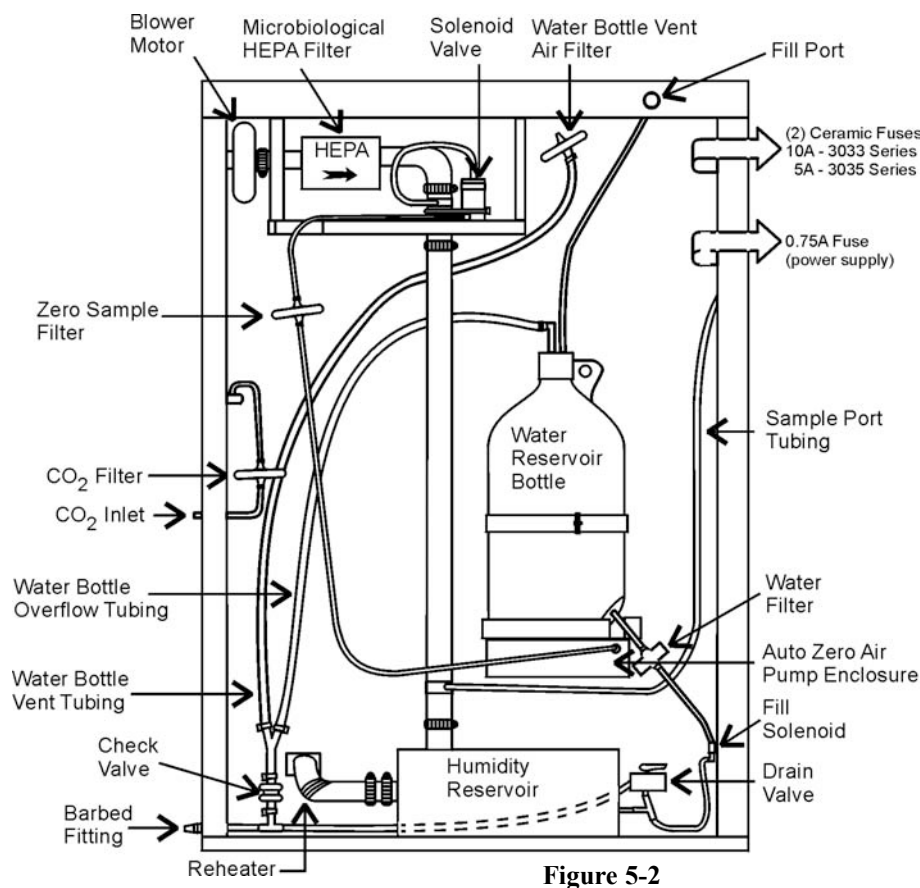

Figure 5-2
4. Locate the CO₂ filter about halfway up the left side. (It will be connected to the hose leading to the CO₂ gas fitting on the back of the incubator. (See Figure 5-2.)
4. Locate the Zero Sampler Filter installed in the clear vinyl tubing connected between the upper solenoid valve and the air pump located beneath the reservoir bottle. See Figure 5-2.
5. Remove the fiber insulation to expose the filter. Refer to Figure 5-2.